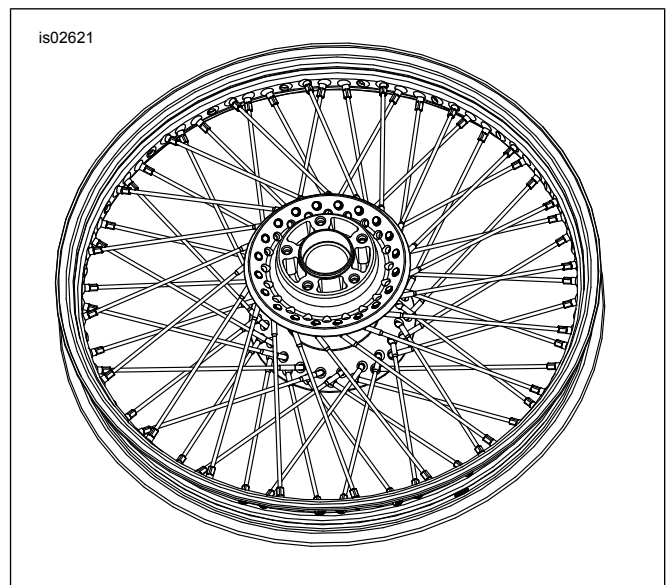

Figure 7. Install Outer Spokes (21-inch wheel shown)
7. See Figure 7. Turn rim over so brake disc side faces **down**. Place any **outer** row spoke into hub. Angle spoke counterclockwise and insert into rim hole angled to accept it. Loosely assemble the spoke nipple.